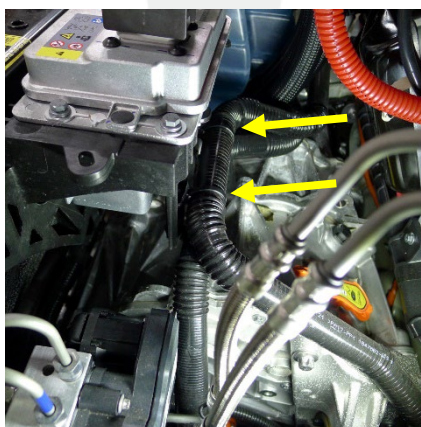

Figure 37
31. Fasten the clips (x2) that attach the coolant hose to the LV battery (Figure 37).